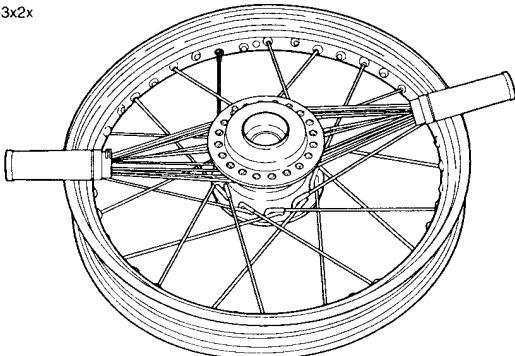

Figure 2-32. Beginning Spoke-Bottom Flange Outer
12. See Figure 2-32. Using the spoke alignment method discussed previously, Locate a hole pointing downward and outward toward the bottom flange of outer spokes (short head).